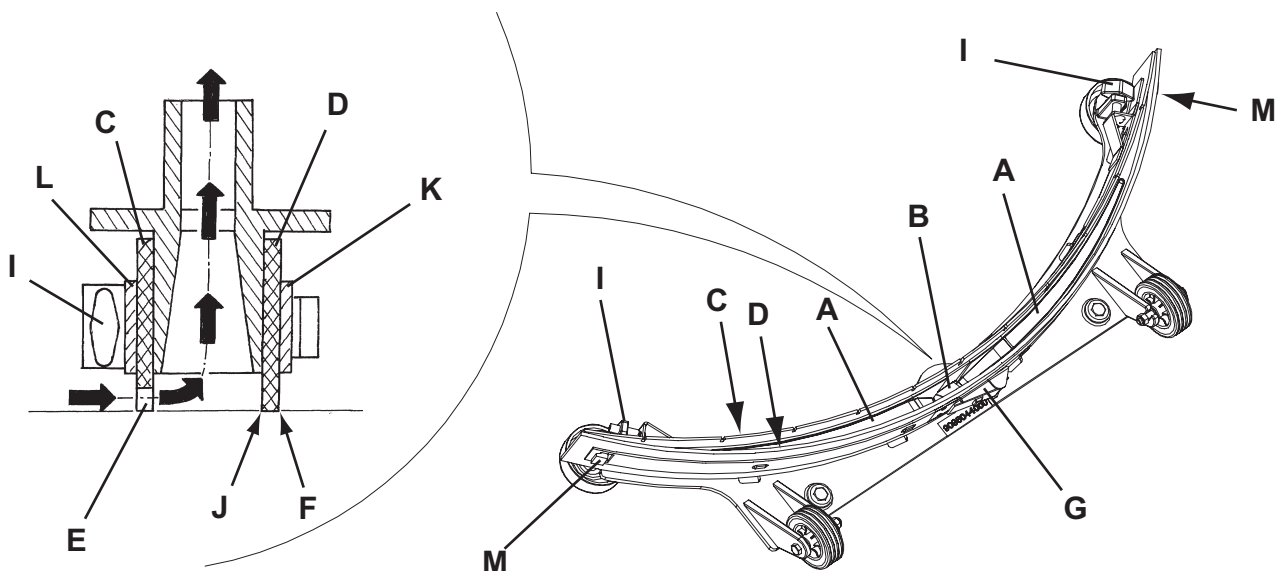

Figure 4
3. Lower the squeegee (21) with the lever (7).
4. Loosen the handwheels (22) and remove the squeegee (21).
5. Disconnect the vacuum hose (10) from the squeegee.
6. Wash and clean the squeegee (Fig. 4). In particular, clean the compartments (A) and the vacuum hole (B) from dirt and debris. Check the front blade (C) and the rear blade (D) for integrity, cuts and tears; if necessary replace them (see the procedure in the following paragraph).
1. Clean the squeegee (Fig. 4) as shown in the previous paragraph.
2. Check that the edge (E) of the front blade (C) and the edge (F) of the rear blade (D) lay down on the same level, along their length; otherwise adjust their height according to the following procedure:
- Remove the tie rod (G), disengage the retainers (M) and adjust the rear blade (D); then engage the retainers and install the tie rod.
- Loosen the handwheels (I) and adjust the front blade (C); then tighten the handwheels.
3. Check the front blade (C) and rear blade (D) for integrity, cuts and tears; if necessary replace them as shown below. Check that the front corner (J) of the rear blade is not worn; otherwise, overturn the blade to replace the worn corner with an integral one. If the other corners are worn too, replace the blade according to the following procedure:
- Remove the tie rod (G), disengage the fasteners (M) and remove the retaining strip (K), then replace/overturn the rear blade (D).
- Unscrew the handwheels (I) and remove the retaining strip (L), then replace the front blade (C).
4. Connect the vacuum hose (10) to the squeegee.